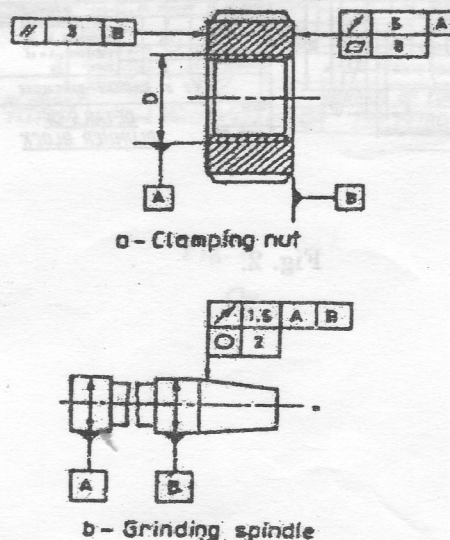

Fig. 1.
3. Explain the meaning of the geometrical tolerances indicated for the machine tool points as shown in Fig.1.